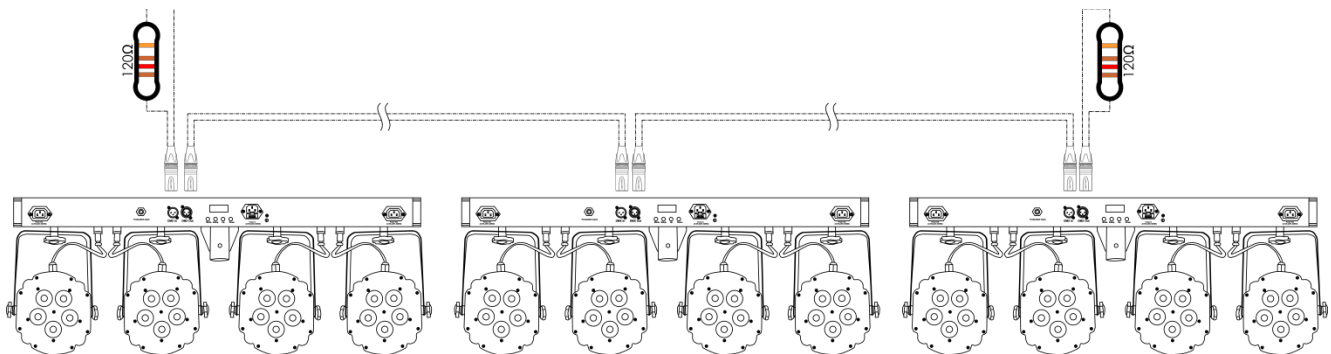

Fig. 02
- 04) Link the units as shown in Fig. 02, connect a DMX signal cable from the first unit's DMX "out" socket to the second unit's "in" socket. Repeat this process to link the second and third units. You can use the same functions on the master device as described on pages 13-16 (Sound controlled, Manual control, Auto run, Built-in Programs). This means you can set your desired operation mode on the master device and all slave devices will react the same as the master device.